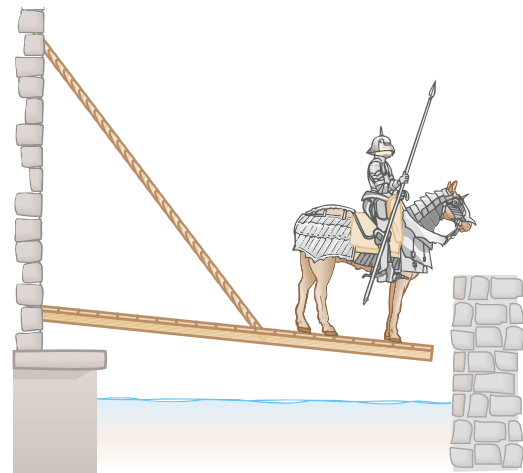

Figure P12.21
21. Sir Lost-a-Lot dons his armor and sets out from the castle on his trusty steed in his quest to improve communication between damsels and dragons (Fig. P12.21). Unfortunately, his squire lowered the draw bridge too far and finally stopped lowering it when it was 20.0° below the horizontal. Lost-a-Lot and his horse stop when their combined center of mass is 1.00 m from the end of the bridge. The bridge is 8.00 m long and has a mass of 2 000 kg. The lift cable is attached to the bridge 5.00 m from the hinge at the castle end and to a point on the castle wall 12.0 m above the bridge. Lost-a-Lot's mass